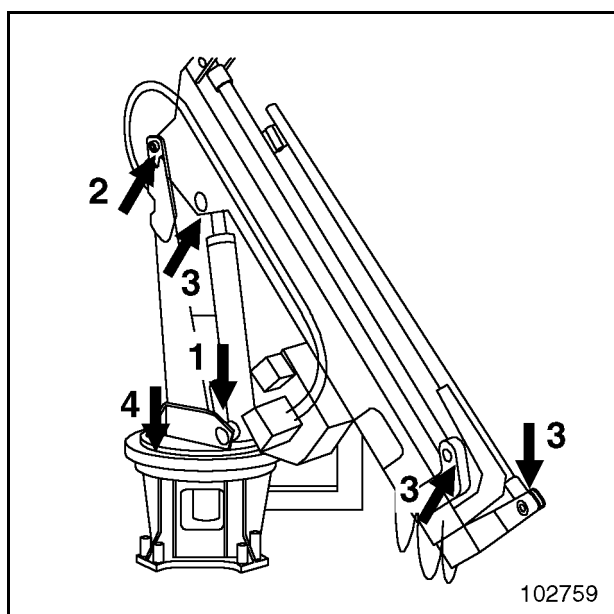

Fig. 3-168:
- Lubricate all bearings regularly and as required, and spray swing ring with a graphite spray (Fig. 3-168:):